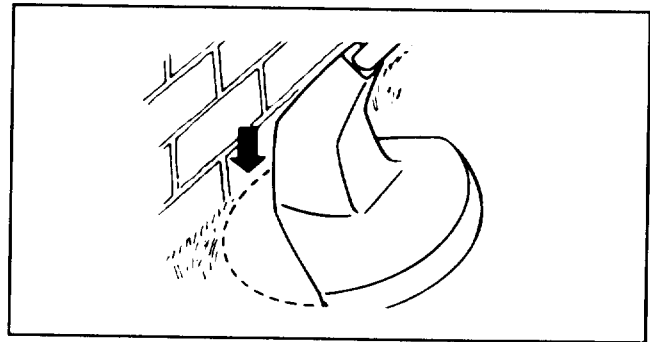

Figure 14
7. **DO NOT FORCE THE UNIT.** Allow the very tip of the nylon line to do the cutting (especially along walls) (Fig. 14). Cutting with more than the tip will reduce cutting efficiency and overload the motor.